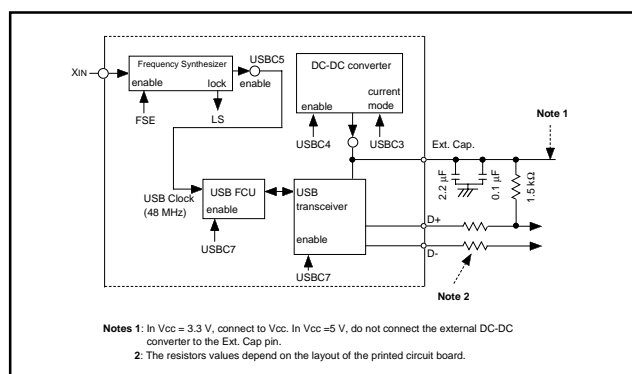

Fig.102 Peripheral circuit
- Connect a capacitor between the Ext. Cap. pin and the Vss pin. The capacitor should have a 2.2 μ F capacitor (Tantalum capacitor) and a 0.1 μ F capacitor (ceramic capacitor) connected in parallel. Figure 102 for the proper positions of the peripheral components.